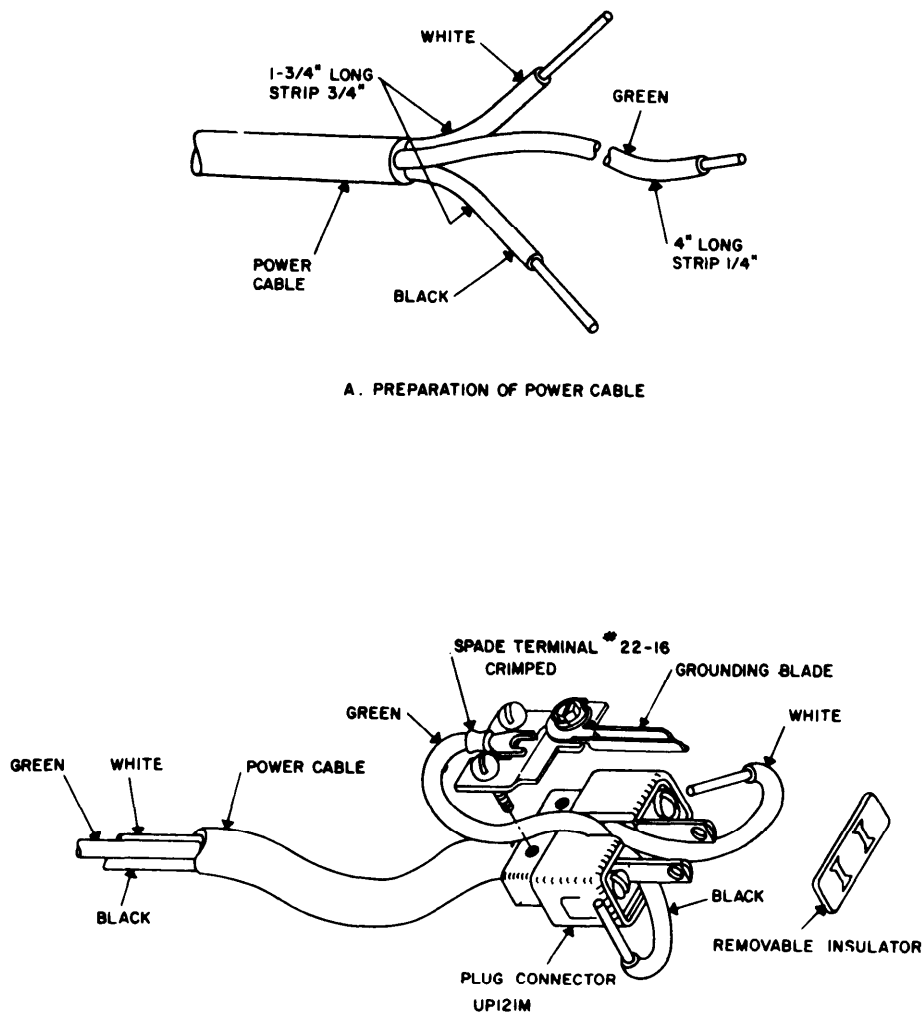

Figure 7-8. Replacement of power plug UP131M,
- a. Remove the old plug UP131 M from the power cord by taking out the the screws as shown (fig. 7-8).